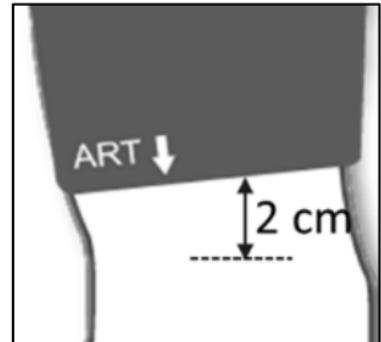

Fig. 2: Positioning of the cuffs
- Align the cuff so that no part of the cuff tube can be kinked. Align the cuff so that the lower edge of the cuff is about 2 cm (0,8 Inch) above your elbow, see Fig. 2.
- Make sure that the artery symbol on the cuff is positioned on the arm artery (brachial artery), see Fig. 2.